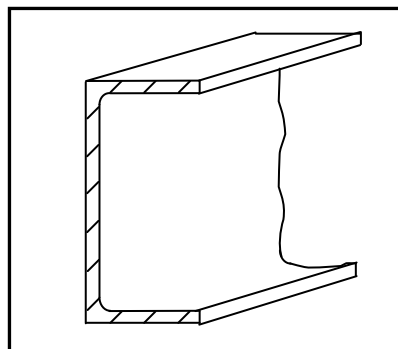

FIGURE 1.5
- 1.5 FIGURE 1.5 below shows a steel profile.